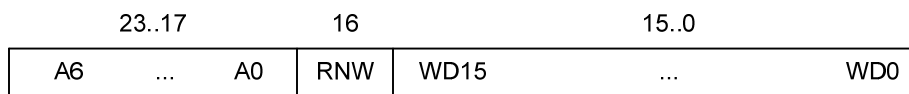

Figure 3. SPI Command Word.
The command word has the format shown in Figure 3. The order of transmission is MSB to LSB. The first 7 bits (23:17) comprise the register address (see Table 2). The next bit (16) is the Read-not-Write (RNW) bit. A '0' signifies a Write cycle, and a '1' signifies a read cycle. The last 16 bits are the data to write to the addressed register.
The order of the 24 total bits of data matches that for the SPI interface (Figure 3). As each byte is received by the assembly, it is echoed back via the TX line. These bytes can be ignored or used for verification.